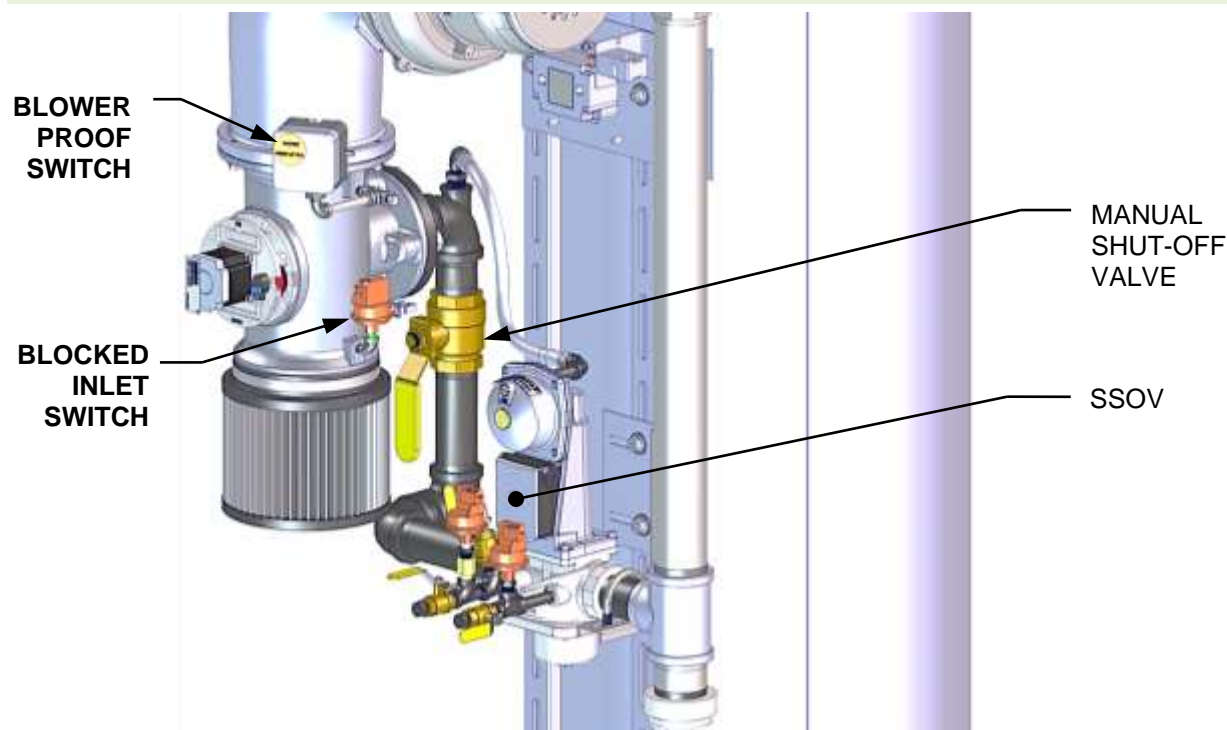

Figure 5-6a: Blower Proof & Blocked Inlet Switch Locations – BMK1500 – 5000N
These tests check the operation of the **Blower Proof** switch and **Blocked Inlet** switch shown in Figure 5-6a, 5-6b and 5-6c.
2. Remove the air filter(s) (see Figure 5-6a, 5-6b or 5-6c, above).